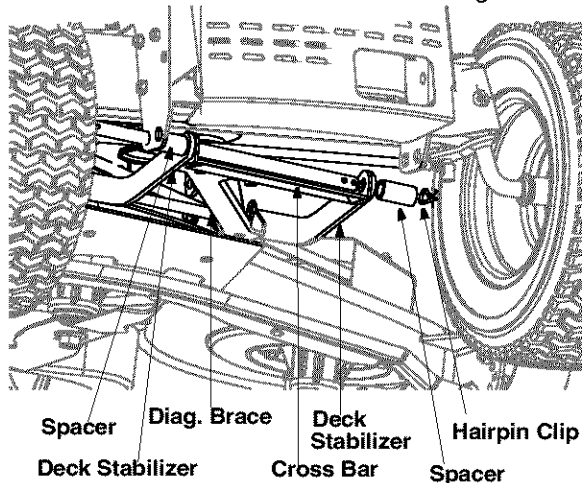

Figure 10
- Standing in front of the tractor, remove the hairpin clips from the cross bar. See Figure 10.
- Slide the cross bar to the left until the right side is free. Drop bar down and slide to the right until cross bar is removed from the tractor. See Figure 10.
- Pull the bar to the left until the spacer is flushed with the end of the bar. Slide the cross bar into the hole on the right side of frame. Secure with hairpin clip. Refer to Figure 10.